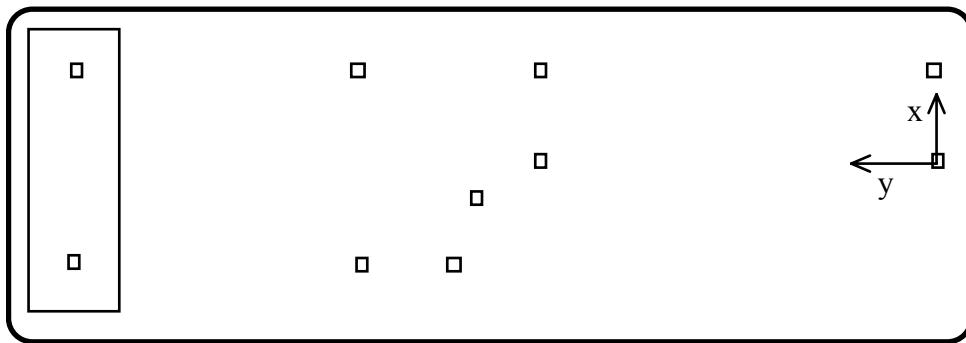

Figure 2.4. Two key points collected by dragging a box around them.
Step 1: Create a straight-line boundary edge by collecting the two points shown in Figure 2.4.